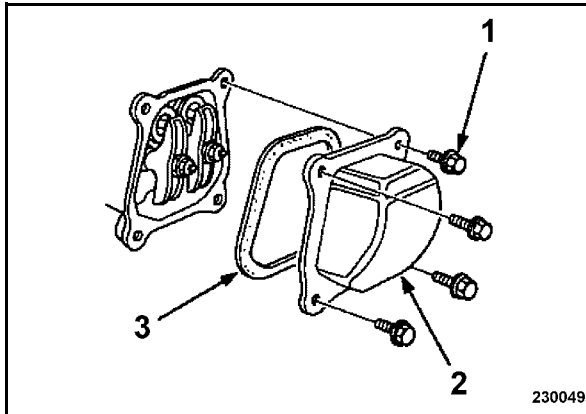

Fig. 51
- Loosen the screws (1) and take off the valve cover (2) (Fig. 51) with gasket (3).